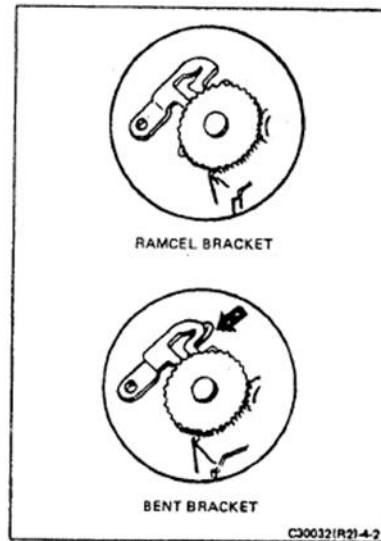

FIGURE 4-2 COMPARISON OF SPREAD ROLL BRACKETS
- Two vendors produce the spread system assembly bracket (see Figure 4-2). One vendor, Ramcel, makes the bracket with a retainer area which is not bent. The other vendor makes the bracket with a bent retainer area. Most of the loose front cover problems occur with the bent retainer area. Therefore, a simple solution is to replace the front cover or a spread system sub-assembly with one containing a Ramcel spread roller bracket. However, before doing this, try the repair procedure called out in paragraph c, below. (Do not scrap the original front cover since it is still usable on other cameras.)